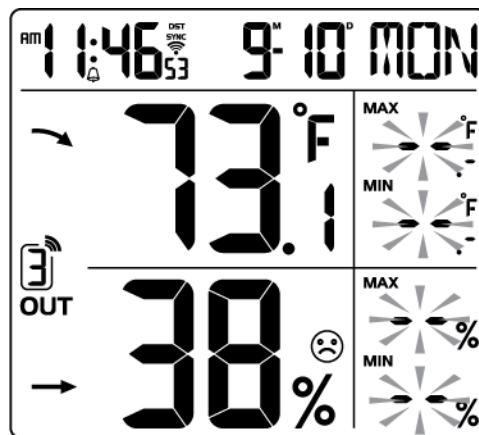

Figure 13
3. Press and hold the **MEM/-** button for two seconds to clear the all-time Max/Min records. The display will update as shown in Figure 13.